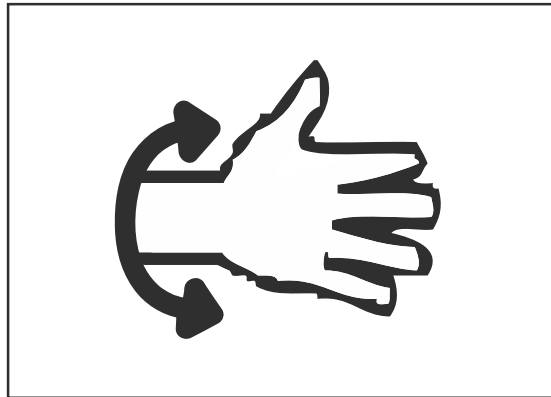

Fig. 18
- Tow the implement through the steering rod. The towing by coupling to other places can make the tractor overturn (Fig. 18).